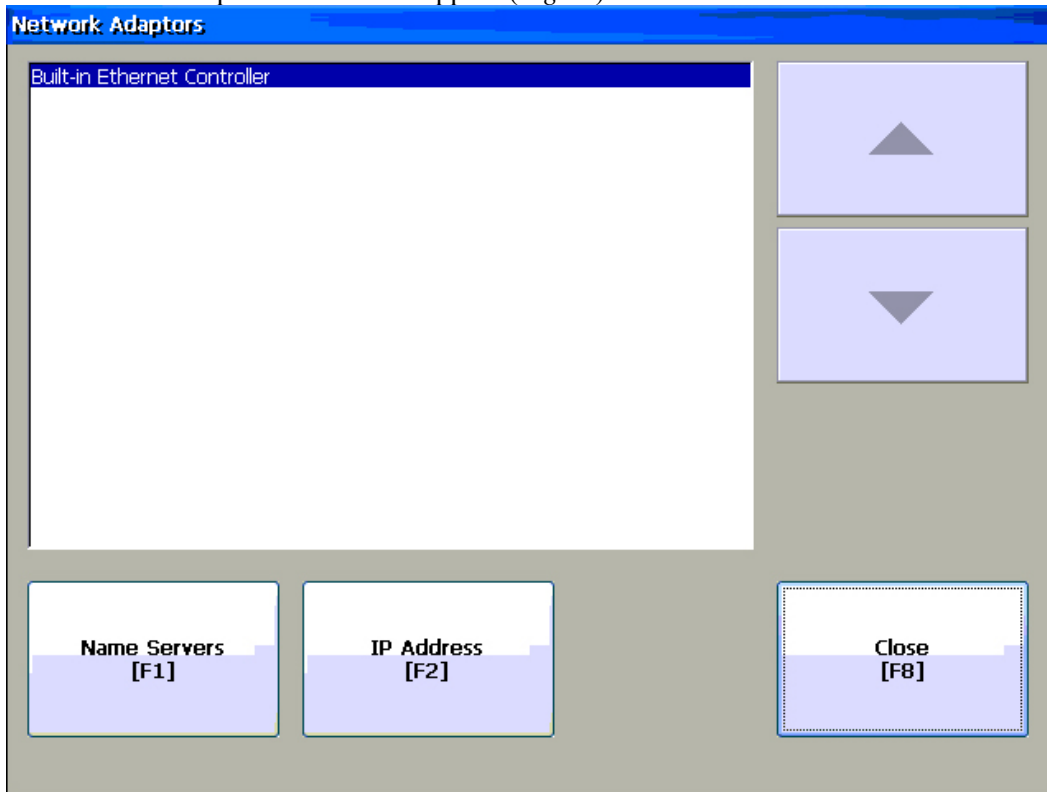

Fig 28
36. The Network Adaptors Screen will appear (*Fig 28*).
47. The Network Adaptors Screen will appear (*Fig 28*).